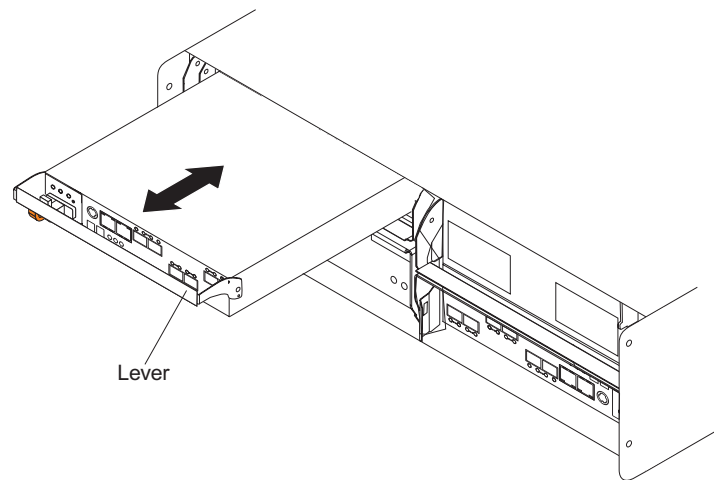

Figure 77. Removing a controller from the DS5020
9. Slowly pull the lever away from the chassis to remove the controller from the bay. Use two hands when releasing the controller levers. Figure 77 shows the controller sliding from the storage subsystem chassis.